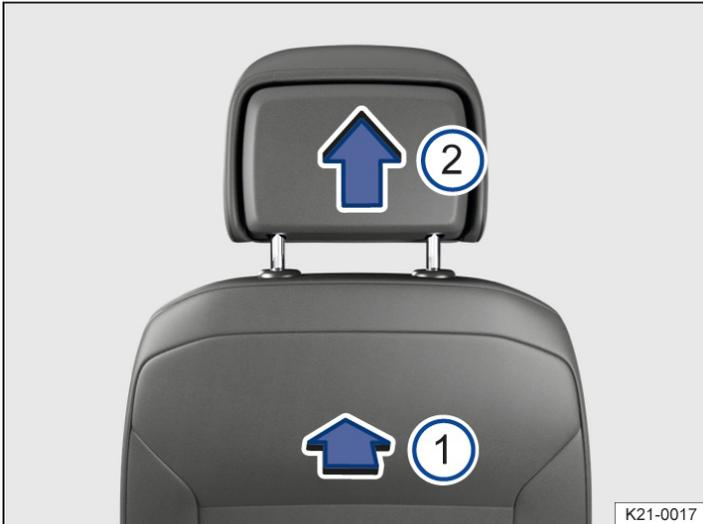

Fig. 1 Removing a front head restraint(illustration).
2. To release the head restraint, feel for the recess in the marked area → Fig. 1 (1) on the rear side, press in and hold in the direction of the arrow.
3. Pull the head restraint out in the direction of the arrow → Fig. 1 (2).